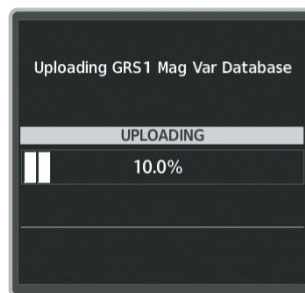

Figure B-11 Uploading Database to GRS1
- 1) With 'OK' highlighted, as seen in "GRS1 Magnetic Field Variation Database Update Prompt" Figure, press the **ENT** Key on the MFD. A progress monitor is displayed as shown in Figure B-11.